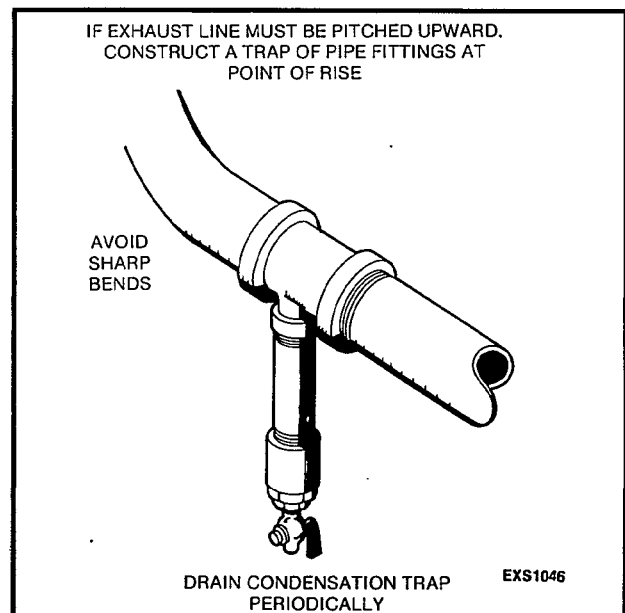

FIGURE 3-3. EXHAUST CONDENSATION TRAP
- Provide a condensate drip leg where piping turns to rise vertically (Figure 3-3).